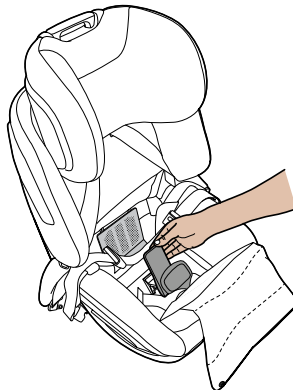

Figure 6
Step 2. Continue to pull the SMART Lock® handle until it reaches the underside of the open installation door (Figure 6).
Step 3. Press SMART Lock® against installation door until it catches and holds the door open (Figure 6).